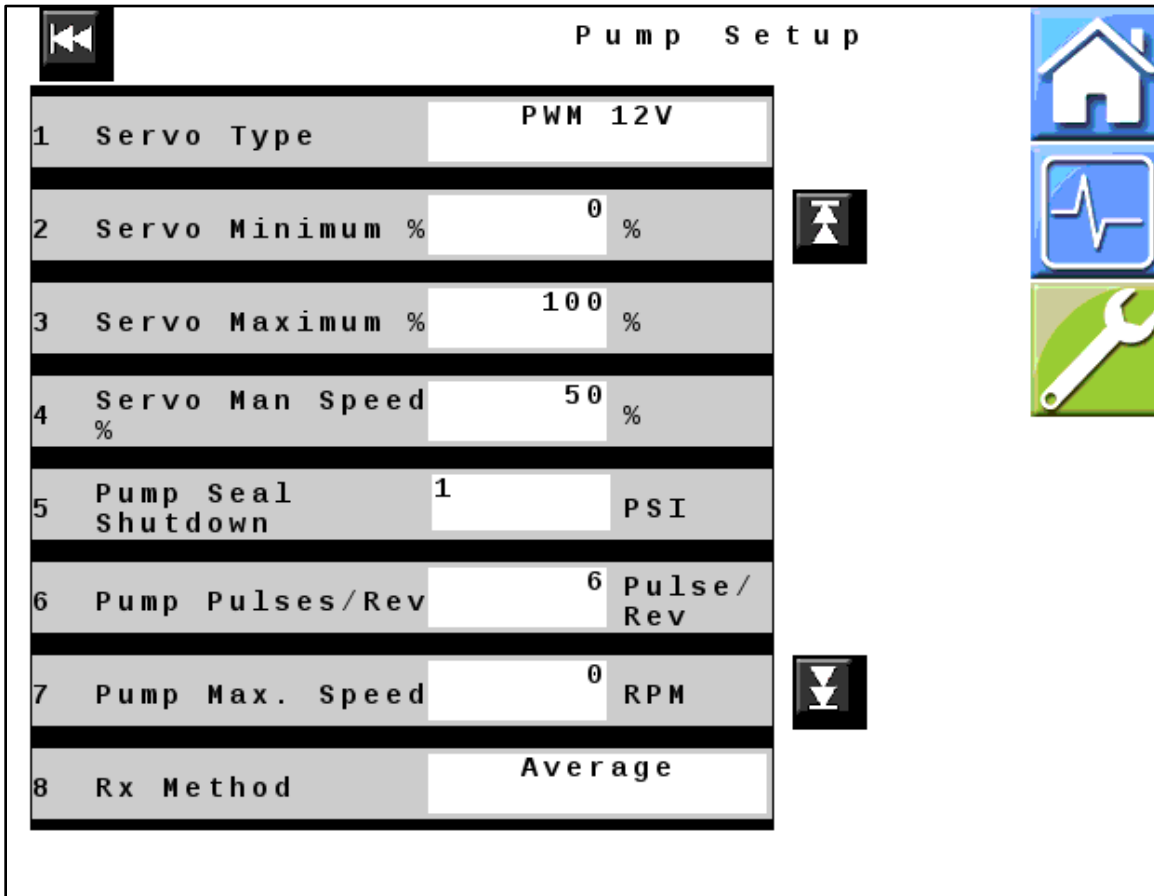

Figure 11 — Pump Setup Page 1
19. *Figure 11:* Verify that all values displayed on your unit match those shown here. Change values if necessary.